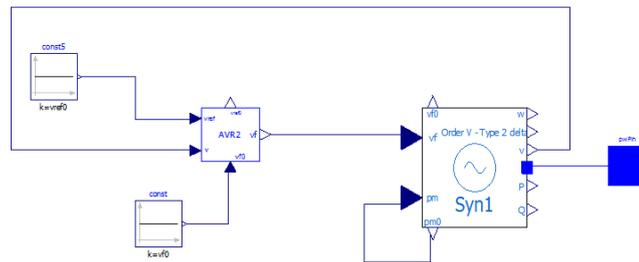

Figure 1: Final Generator + AVR configuration
6. Your final model for each generator should look like that in Figure 1.